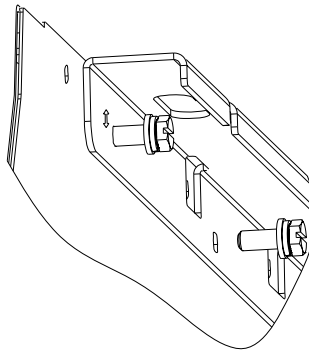

Fig.11-8
- Suspension bolts should stay side the cap of the indoor unit .Never remove the cap. Lift the unit and slide the hanger bracket in the way that the holes on it will match with the corresponding bolts. (See Fig. 11-8)